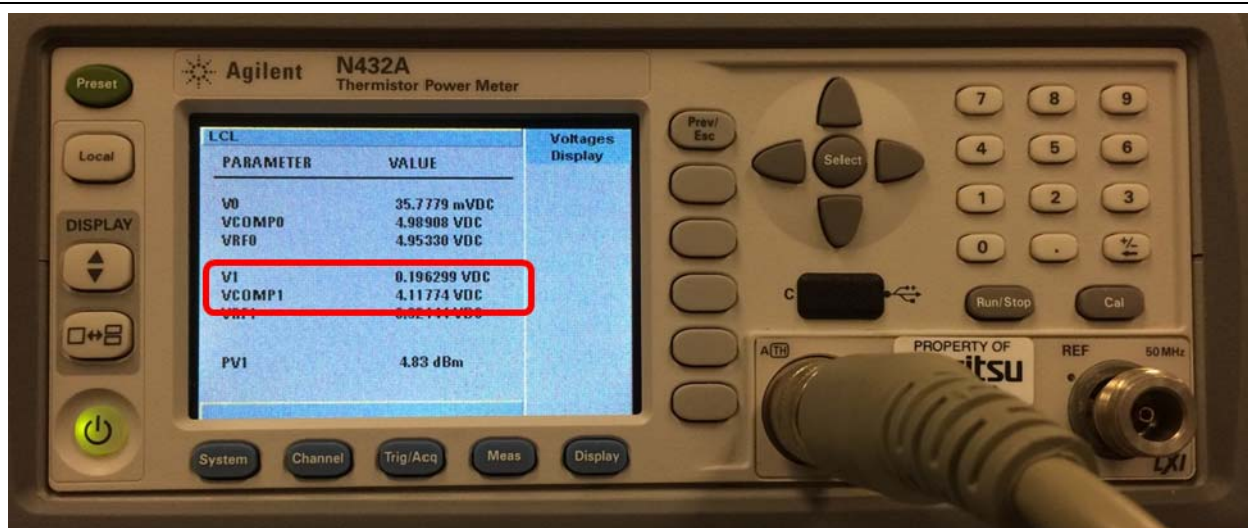

Figure 3-7. V_1 and V_{comp1} Values Shown on the N432A
24. Note the measured values “ V_1 ” and “ V_{comp1} ” as shown in Figure 3-7.